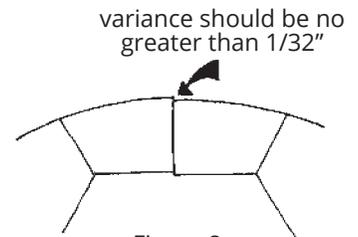

Figure 8
1. Because shaft halves may become slightly out of round as they absorb or lose moisture, it is important to preassemble before gluing. The seams should join together smoothly when clamped, with no more than a 1/32" variance (Fig. 8).